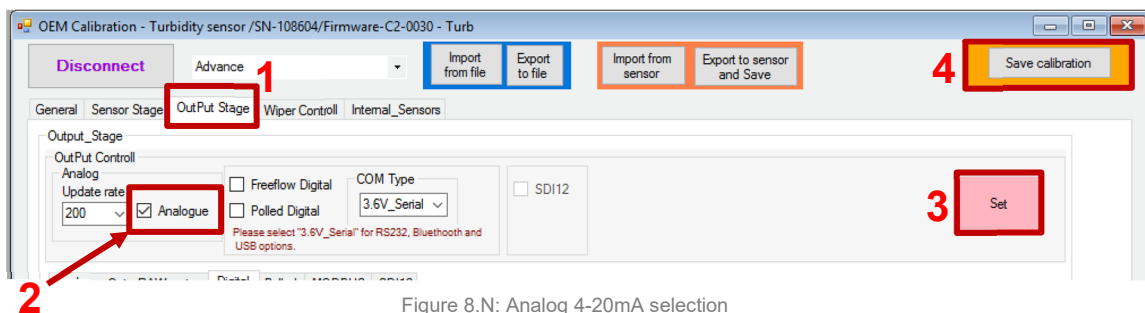

Figure 8.N: Analog 4-20mA selection
- Select “OutPut Stage” option (Figure 8.N: Analog 4-20mA selection#1).